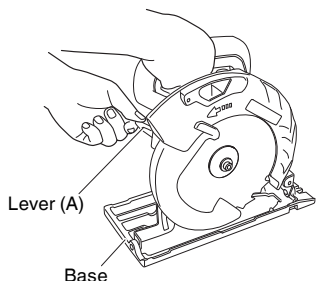

Fig. 4
The cutting depth can be adjusted by moving the base after loosening its lever (A) (Fig. 4).